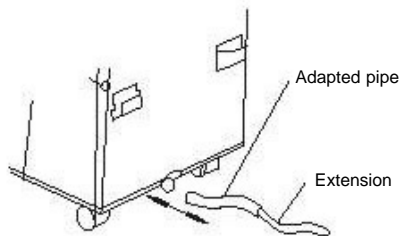

FIG.24
3. You can add an extension to the water tube (diameter 18 mm) (fig. 24).